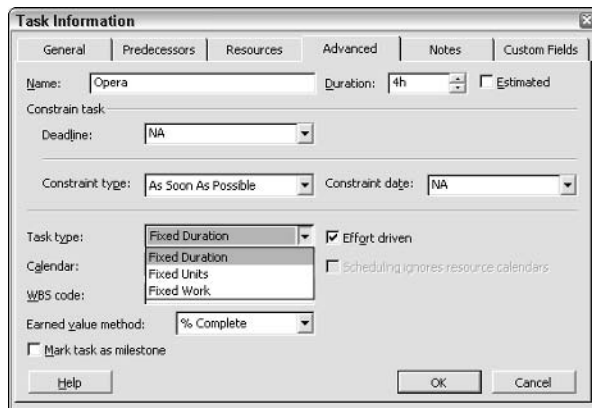

Figure 10-10: Use the Advanced tab of the Task Information dialog box to change the task type.
3. Double-click the task that you want to change in the lower pane. Project displays the Task Information dialog box. Click the Advanced tab, as shown in Figure 10-10.